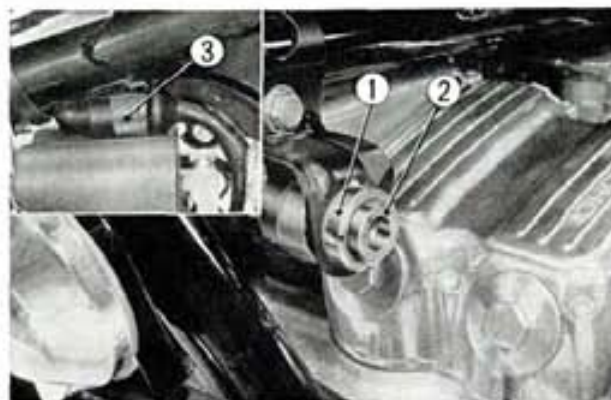

Fig. 1-3 ① Lock nut
1. Loosen the main ignition switch lock nut and remove the switch from the switch bracket. (Fig. 1-3)